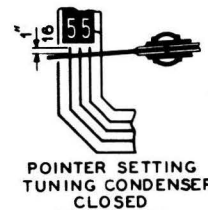

FIG. 3.—Dial Pointer Calibration.
- 2 Holding the tuning condenser in this position, turn the pointer until it is  $\frac{1}{16}$  of an inch below the three lines of the scale at the 550 K.C. end. (See Fig. 3.) This is the correct position of pointer at maximum capacity of tuning condenser.